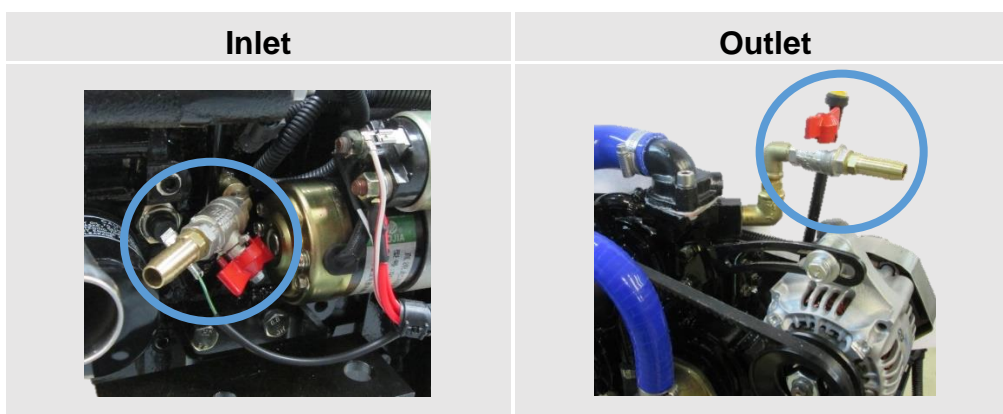

Figure 29: Position of Calorifiers on a River Boat
- The calorifiers are positioned as per (Figure 29)